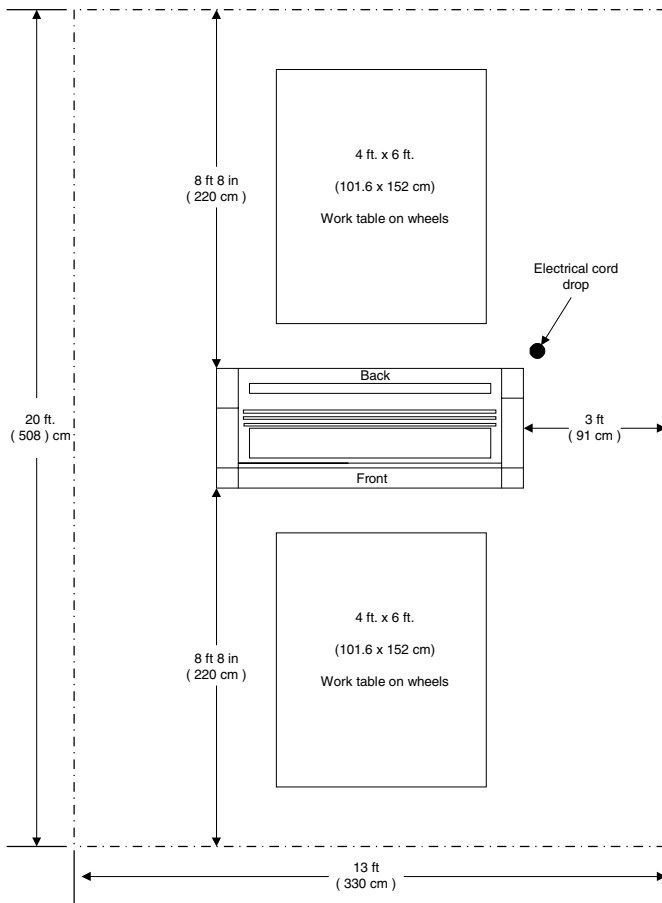

Fig. 3
- A work area must be established that allows for operation in both the front and rear of the laminator and provides space for efficient material flow. (Figure 3)